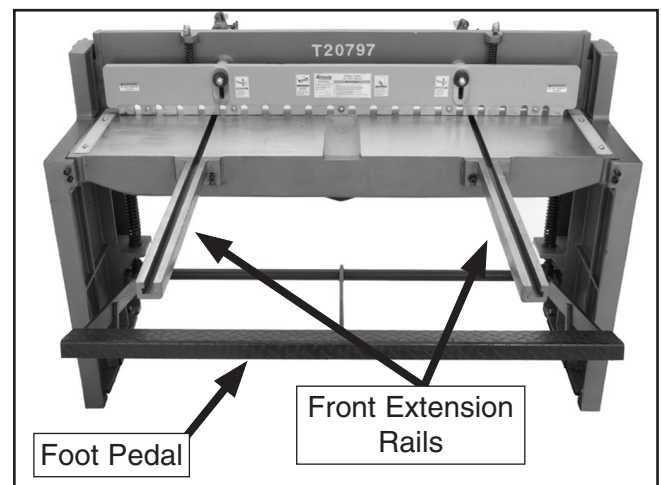

Figure 9. Foot pedal and front extension arms.
7. Slide the front work stop into the extension rails. When the foot pedal, front extension rails, and work stops are installed, the machine should look like **Figure 9**.